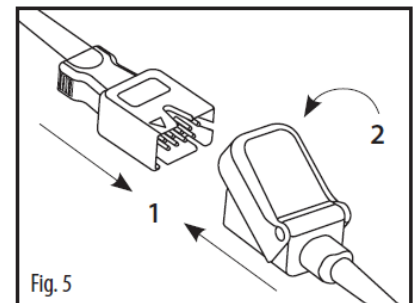

Fig. 26 Connecting LNC Patient Cable to LNCS Sensor
See Fig. 5 in Fig. 26. Insert the sensor connector completely into the patient cable connector (1). Completely close the protective cover (2).